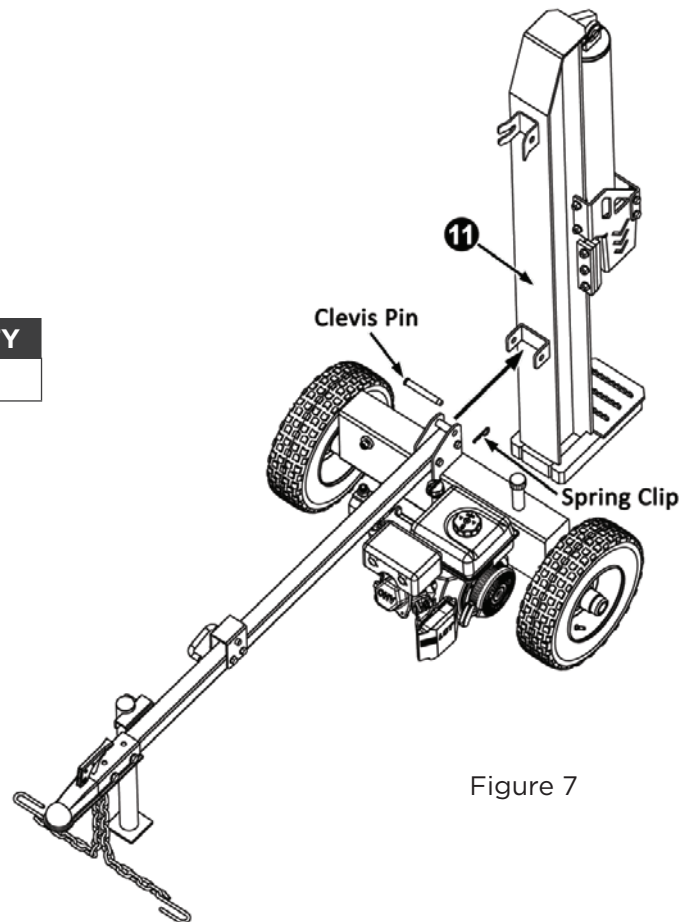

Figure 7
**Step 4:** Install the beam assembly. (See Fig. 7).